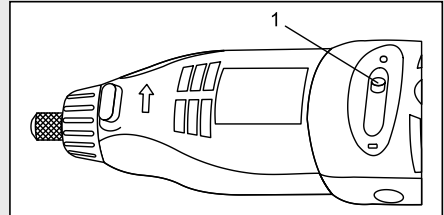

Fig. 1
Both the ON/OFF and speed control functions are controlled by one switch (1) located on the top of the tool (Fig. 1).